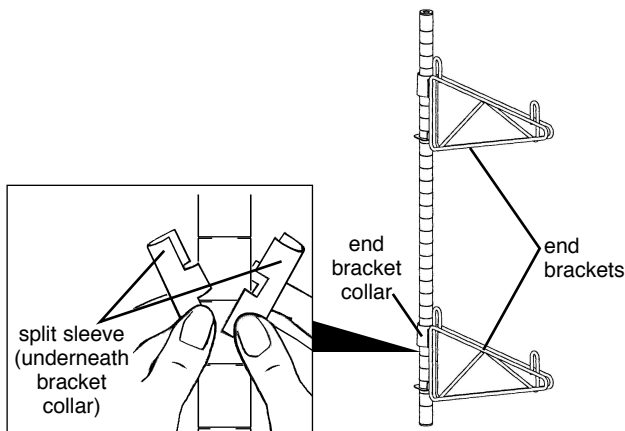

figure 4
• Slide the end bracket collar (see figure 4) over top of post and down onto the plastic split sleeve. Repeat for each shelf bracket.